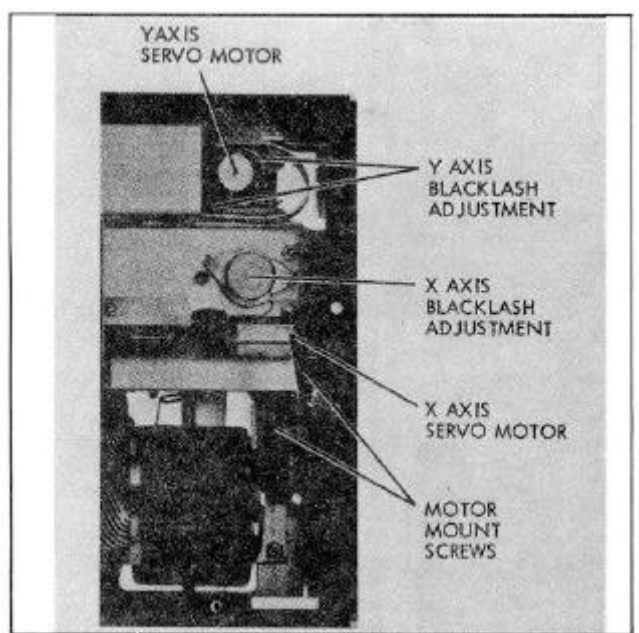

FIGURE 5-22. DRIVE TRAIN ADJUSTMENTS
- b. Slightly loosen two motor mounting screws from bottom of recorder. See Figure 5-22.
- b. Loosen two motor mounting screws from bottom of recorder (see Figure 5-22) and rotate motor until belt is as loose as possible.
- b. Using a 1/4 inch nut driver, slightly loosen two clamps which mount X-axis pulley and pinion on underside of chassis. See Figure 5-22.
- b. Loosen two motor clamping screws (Figure 5-22). Rotate motor until belt is as loose as possible.